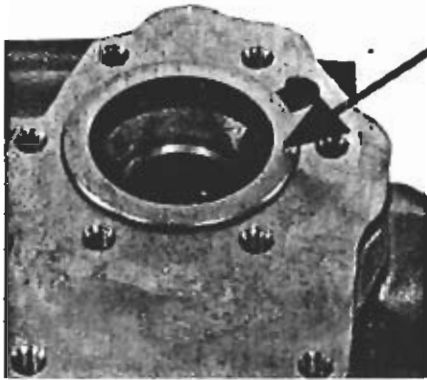

Figure 1 Sleeve in case.
**STEP 1** Press sleeve (10) to bottom of case bore, figure 1.